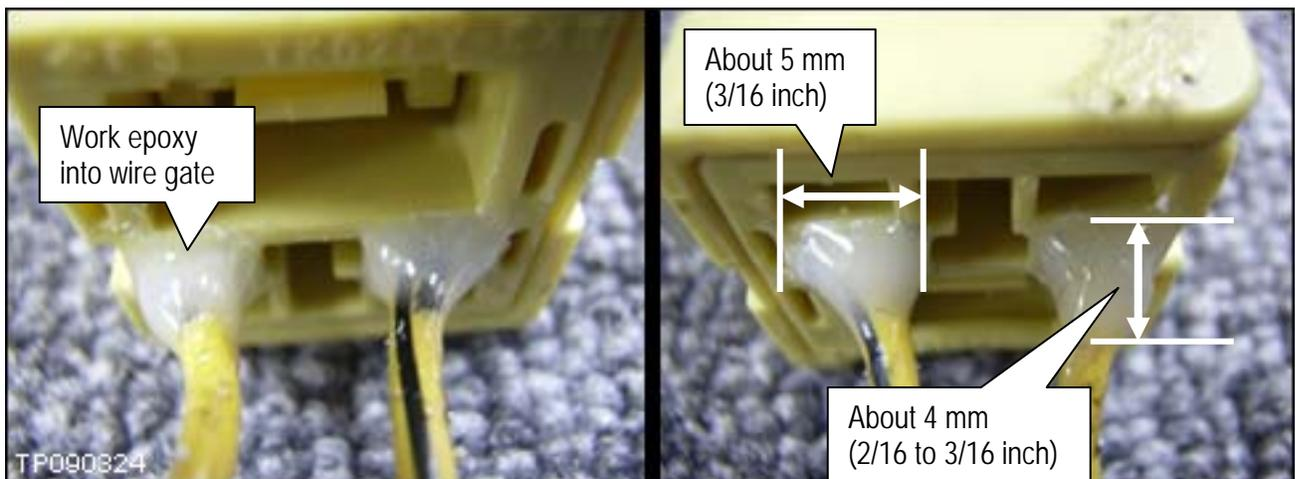

Figure 6
12. Apply the epoxy to the back side (wire gates) of the side air bag harness connector (see Figure 6).
- Apply epoxy about 5 mm wide around the wire and 4 mm from the connector (see Figure 6)